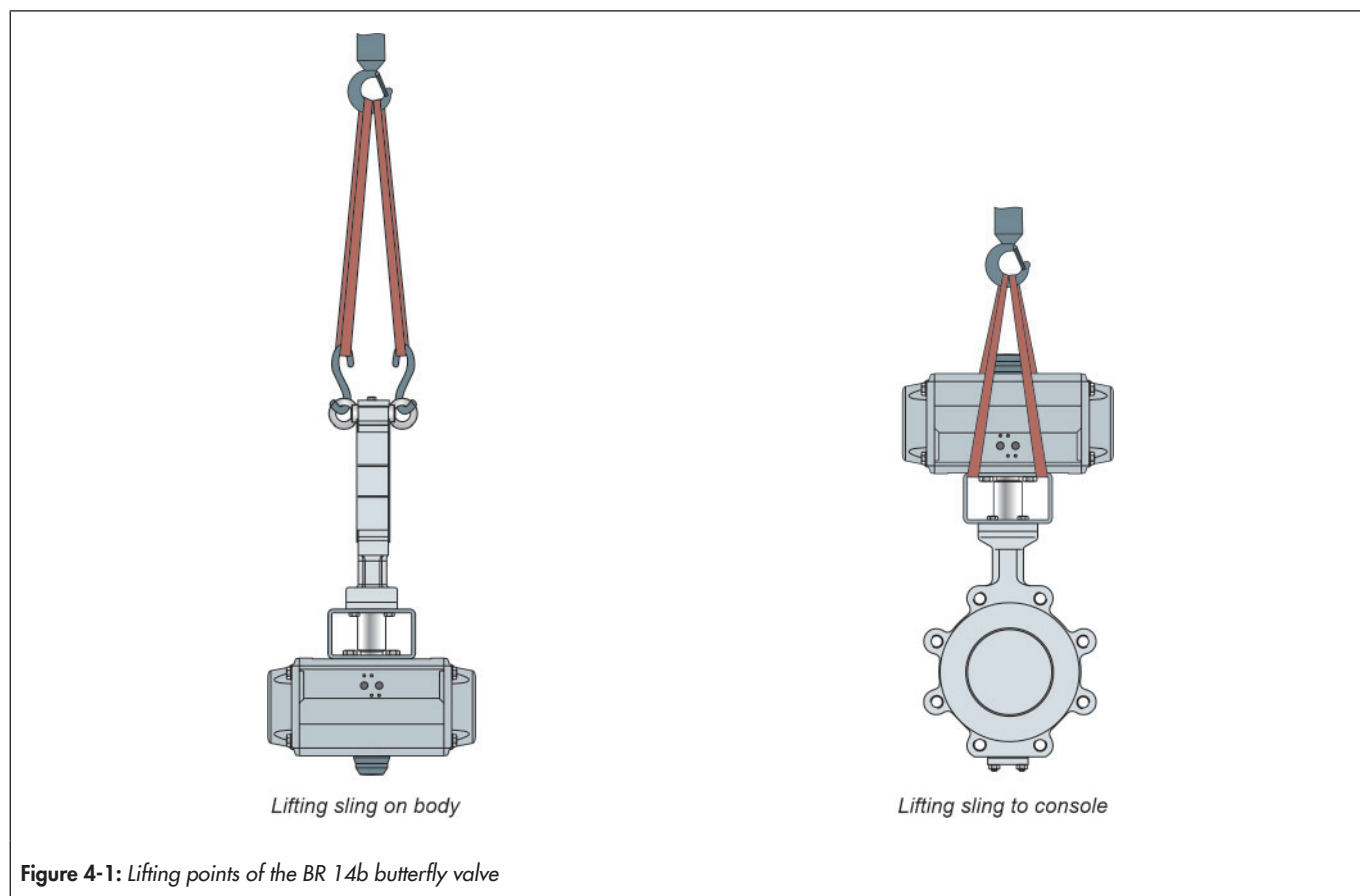

Figure 4-1: Lifting points of the BR 14b butterfly valve
- ⇒ Use a hook with a safety clamp as the suspension element so that the sling cannot slip off the hook during lifting and transport, see Figure 4-1.
- ⇒ Fasten a lifting sling to each suspension element (e.g. hook) of the crane or forklift, see Figure 4-1. When doing so, ensure the safety, bearing capacity and length of the lifting slings.
- ⇒ Fasten a lifting sling to the bracket and the suspension element (e.g. hook) of the crane or forklift, see Figure 4-1. When doing so, ensure the safety, bearing capacity and length of the lifting slings.